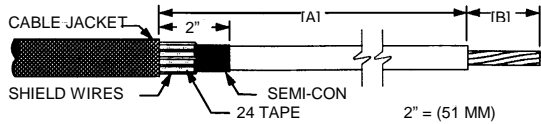

Figure 1
2. Remove jacket as shown in **Figure 1** and **Table 2**. (**Be sure to allow for depth of lug barrel [B] .**)
3. Wrap 2 wraps of Scotch™ 24 Shielding Tape over shielding wires at jacket edge. Cut off excess 24 Tape (**Figure 1**).
4. Bend shielding wires back over 24 Tape and cut excess off at jacket edge (**Figure 1**).
5. Remove semi-con as shown (**Figure 1**).